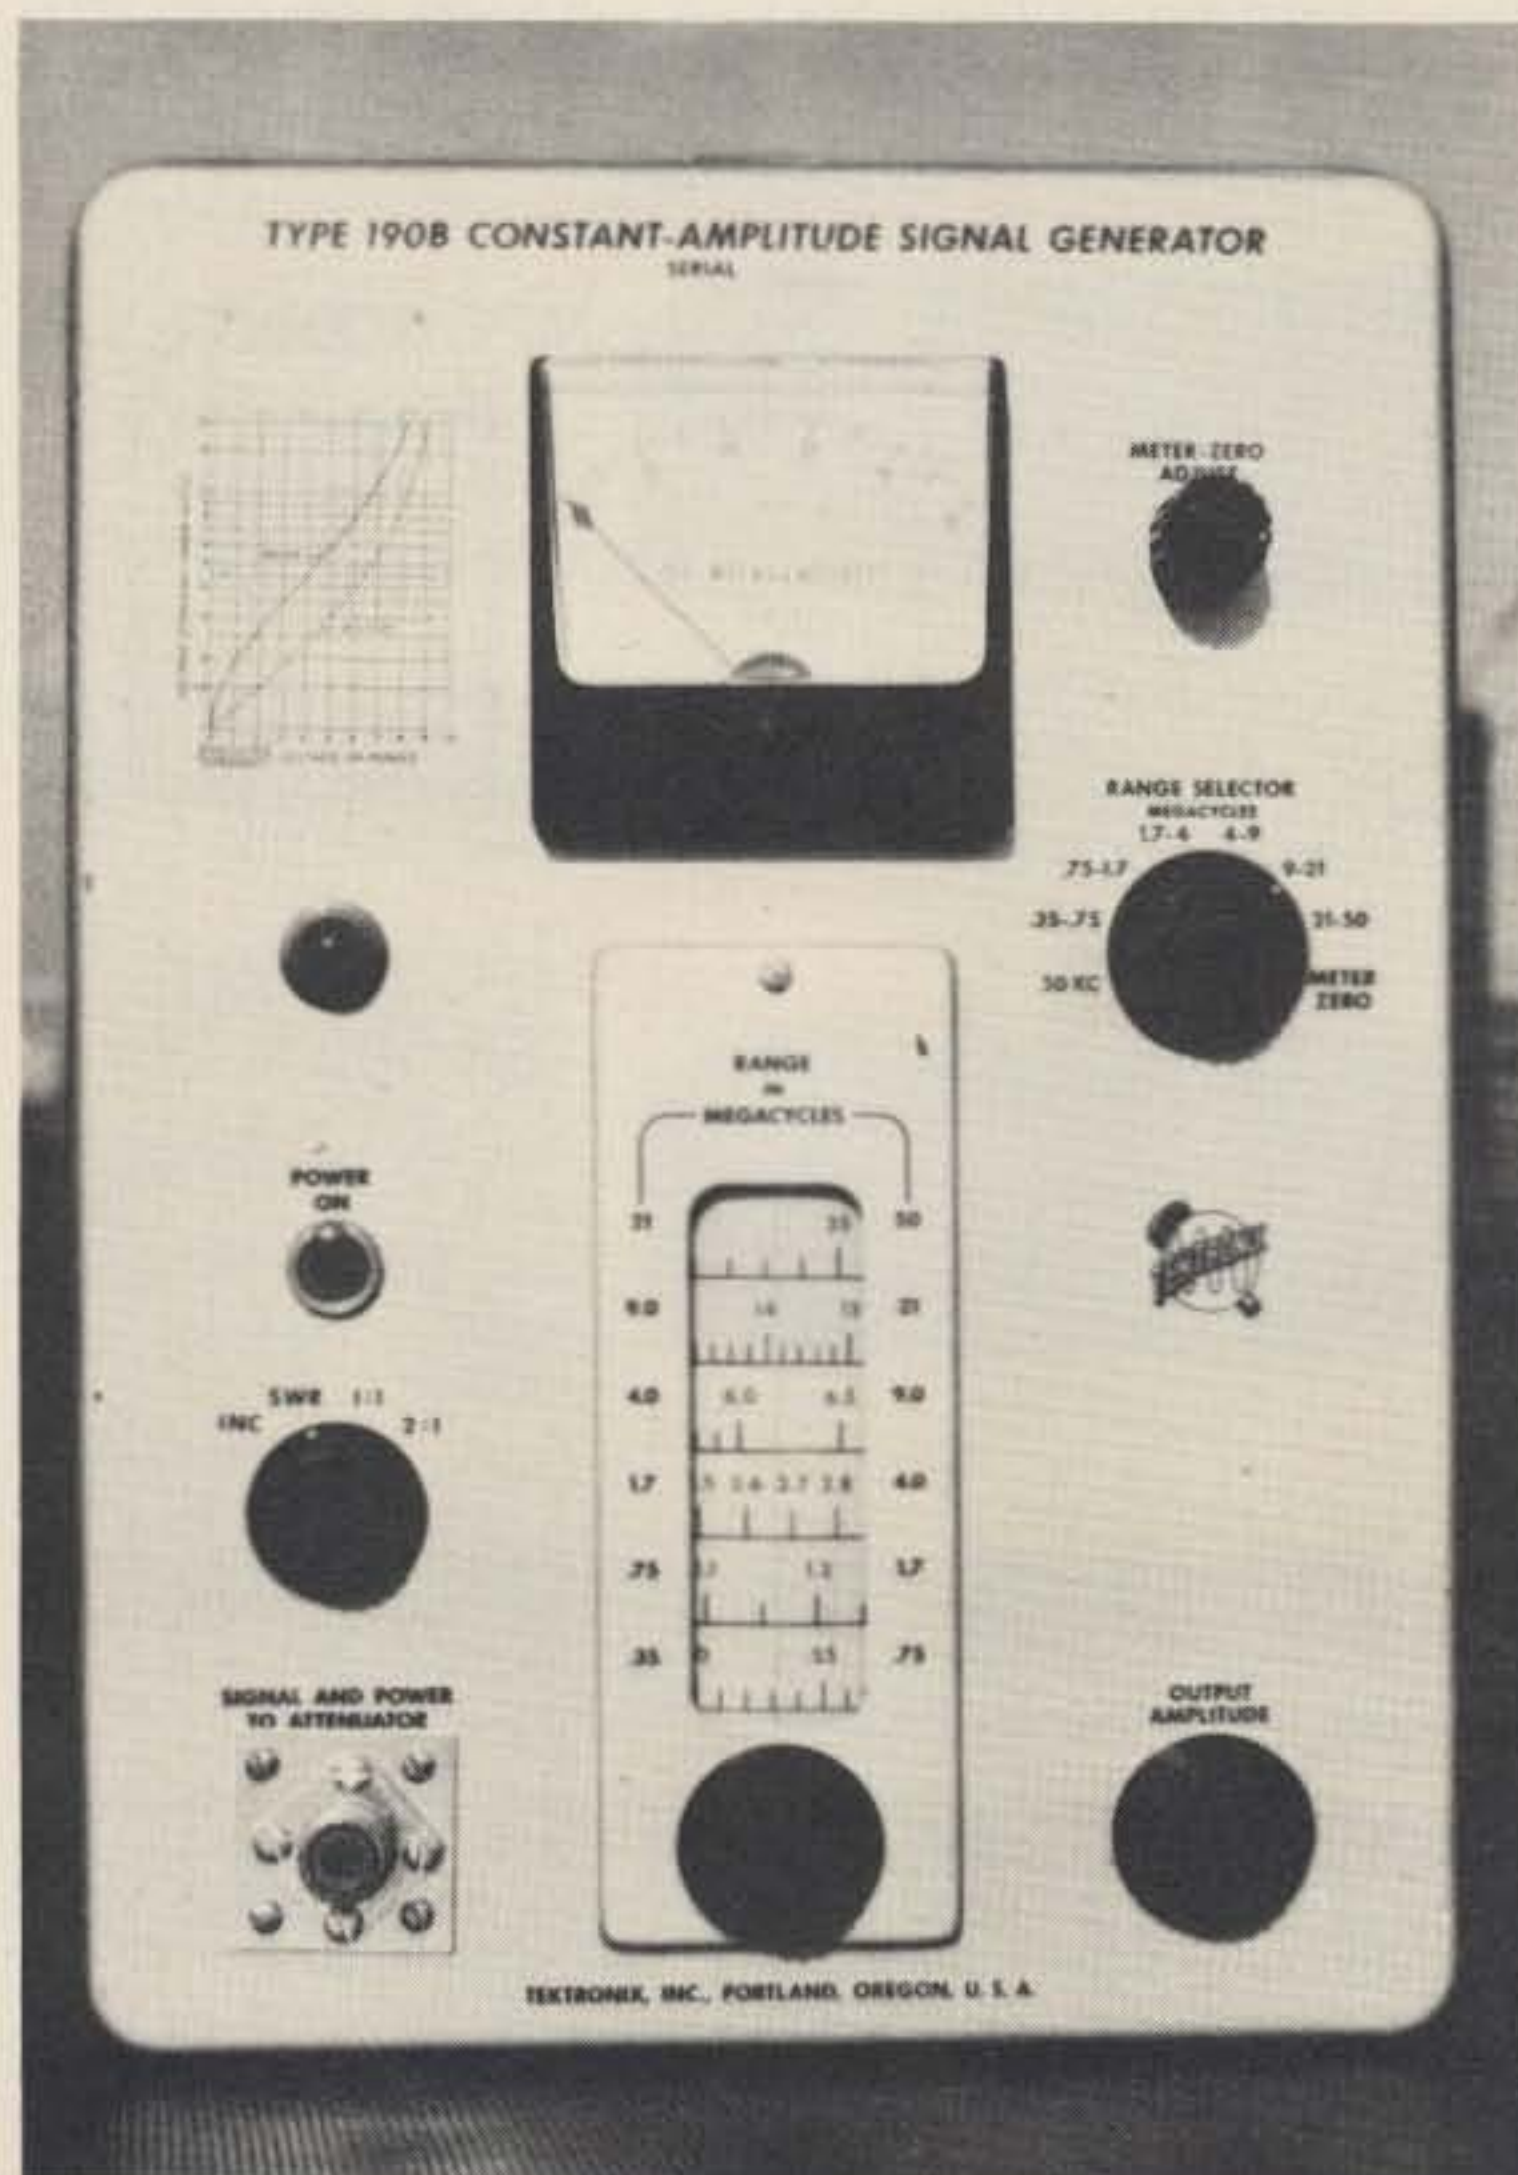
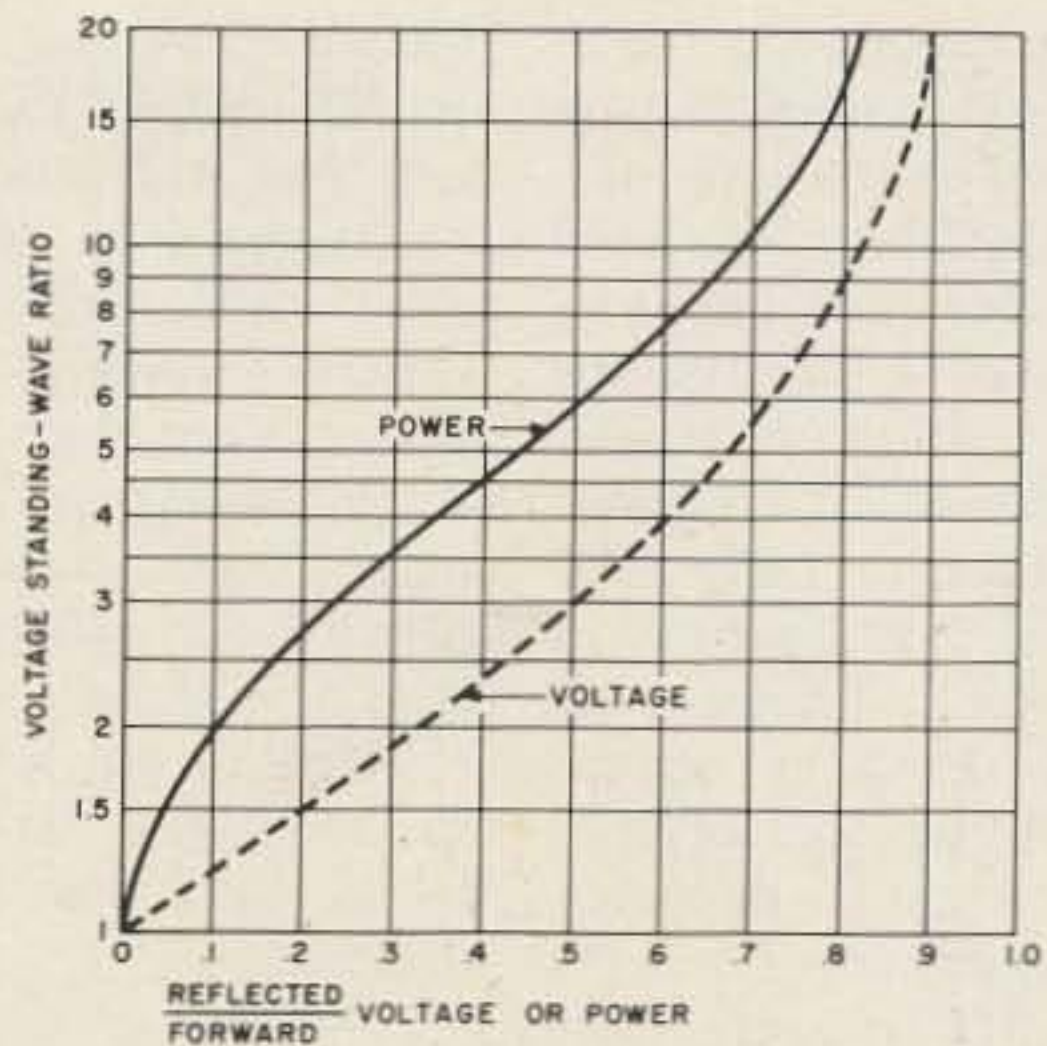

Fig. 1. Completed vswr bridge using modified Tek 190B generator.
Fig. 4. Chart for finding vswr when ratio of reflected to forward voltage is known.
2. Drill a 5/16-inch-diameter hole midway between the power switch and the SO-239 rf connector. Refer to Fig. 1. This hole will be for the vswr function switch. (See schematic for parts list.)
10. If desired, the existing meter can be replaced (Fig. 1), but it's not necessary. I changed mine because of the scale markings.
12. A chart for determining vswr is shown in Fig. 4. Copy it or cut it out and tape it to your unit. See Fig. 1. Calibration is simple. After the unit is complete, turn it on. Do not have a load connected to the coax connector. Adjust the incident voltage (INC) for full scale, then switch to the SWR position. The meter should read the same in each position. If it doesn't, trim RX until the meter reads the same. Now, switch to the 1:1 position. The meter should fall to zero, indicating a balanced 50-Ohm load into the bridge. Switch to the 2:1 position. The meter should read approxi-